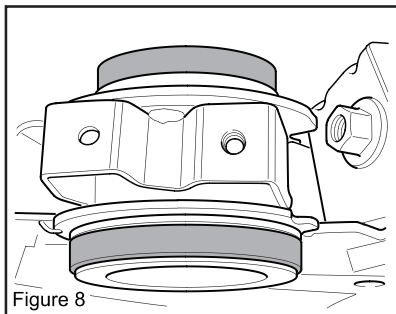

Figure 8
8. Re-install the OE retaining washer, grease the contact surface with grease supplied. Refit bolt but do not fully tension until rear mount inserts are installed. (Figure 8).